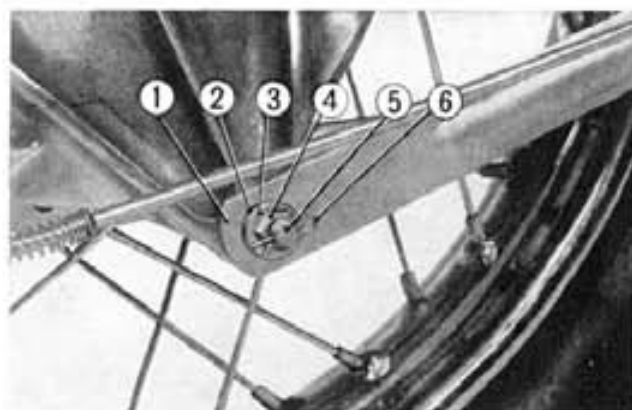

Fig. 13-16 ① Rear brake stopper arm
3. Remove rear brake stopper arm lock pin, nut, flat washer, spring washer and bolt. (Fig. 13-16)